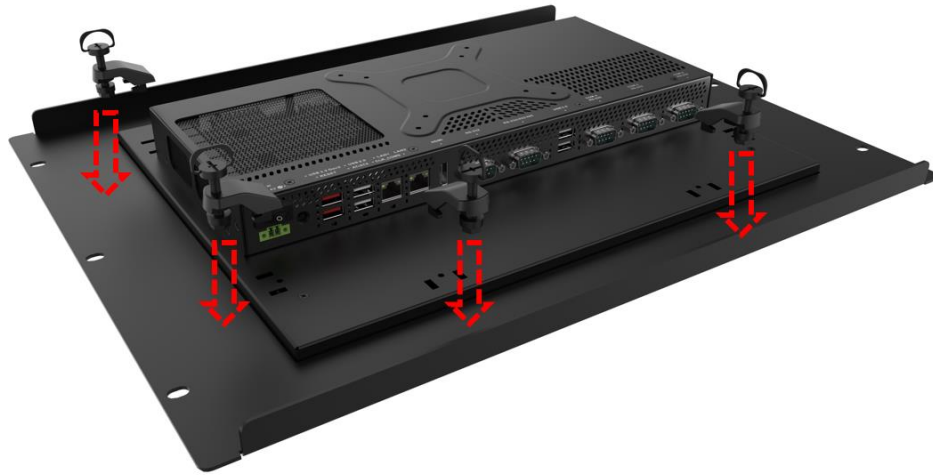

Figure 3-24: Installation Panel Mount Kit
Step 4: Insert the panel mount kit into the prefabricated holes along the rear edge of the PPC2-Cxxx-EHL series (Figure 3-24). The required number of mounting clamps may vary by models.